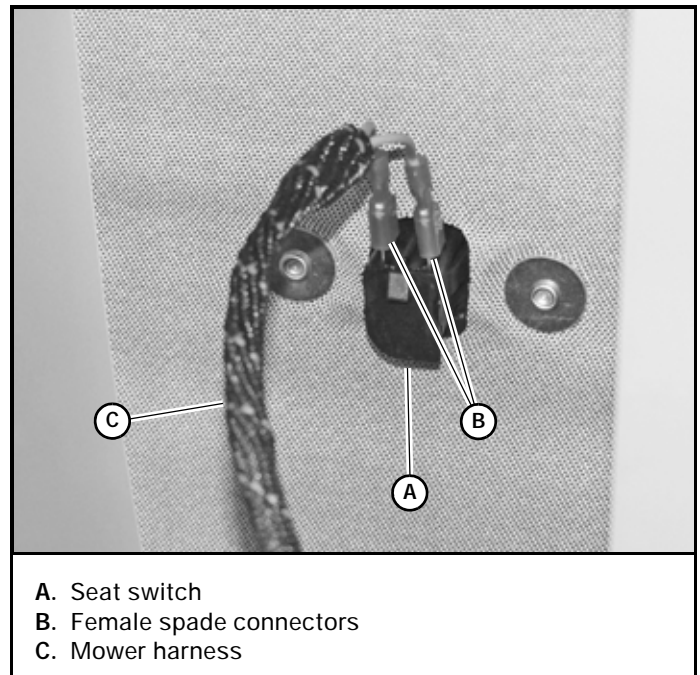

Figure 4-21
3. Raise the seat platform and disconnect the mower harness from the seat switch. Bypass the seat switch by connecting the two mower harness female spade connectors together. Figure 4-21
1. **IMPORTANT:** With the engine off, disconnect the two female spade connectors from each other (from step #3) and reconnect them to the seat switch. This must be completed so that the safety circuit is functioning properly. Figure 4-21